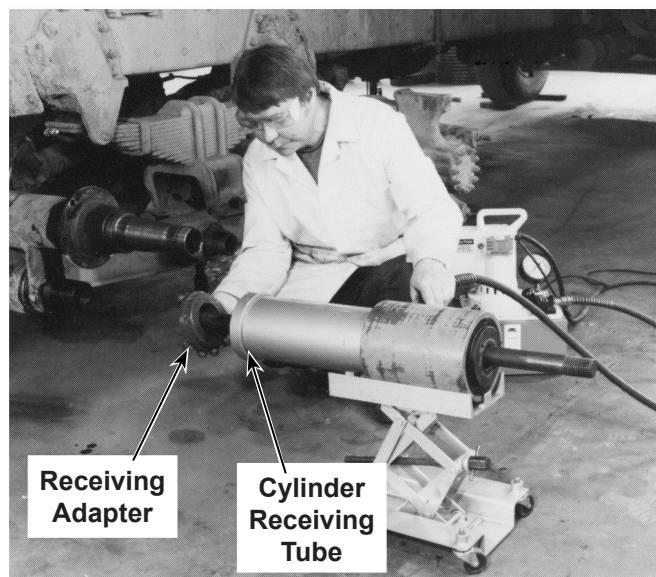

Figure 5
4. Install the receiving adapter (3) on the cylinder receiving tube as shown in Figure 5.